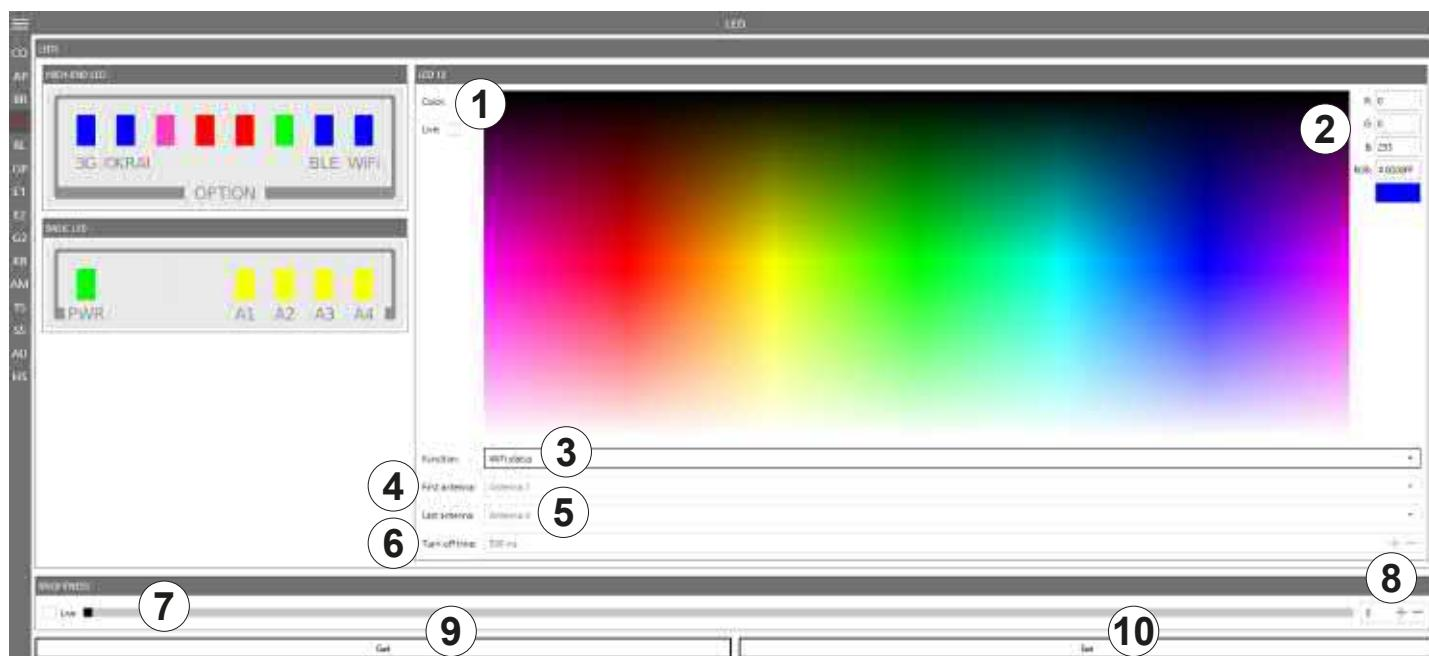

Fig. 48: LED
(3)	Function	selects between the functions described in Selecting Functions, p. 88
(4)	First antenna	the first antenna for the selected function
(5)	Last antenna	the last antenna for the selected function
(6)	Turn-off time	sets the time for how long LED is on for the selected function
(7)	Brightness (live)	changes the LED brightness for all active LEDs (between 0 (auto brightness determined by the integrated light sensor) and 100) <ul style="list-style-type: none">▶ Move the brightness position along the bar to change the brightness of the LED. ⇒ The number at ⑧ changes.
(8)		changes the LED brightness (between 0 and 100) <ul style="list-style-type: none">▶ Click + or - to change the brightness of the LED.
(9)	Get	shows the current settings for all LEDs
⑩	Set	sets the new settings for all LEDs for which the settings have been altered
- Click on the arrow (③ in Fig. 48, p. 87) to select between the following functions: